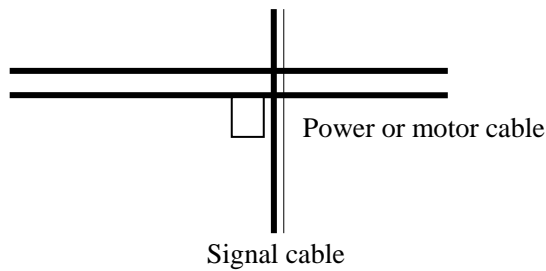

Fig. 2-11 Wiring requirement of system
- (1) The cable connected inverter and motor (cables from U, V, W points) should not parallel with power supply cable (R, S, T or L, N terminal input wire). The distance should be more than 30cm.
- (2) Inverter’s output cables from U, V, W terminals is recommend to put in metal tube or slot.
- (3) Control signal cables should be shield and the shield layer should be connected with inverter’s PE terminal, then ground the point near the inverter.
- (4) The grounding cable of inverter’s PE terminal should be connected to ground directly.It can’t connect to other devices’ grounding cables.
- (5) Don’t put the signal cables in parallel with the power cables (R, S, T or L, N with U, V, W) or bundle these cables together, at least 20~60 cm distance should be kept (related with power current), If the signal cables and power cables need to be intersected, they should be vertical to each other, as shown in Fig2-11.